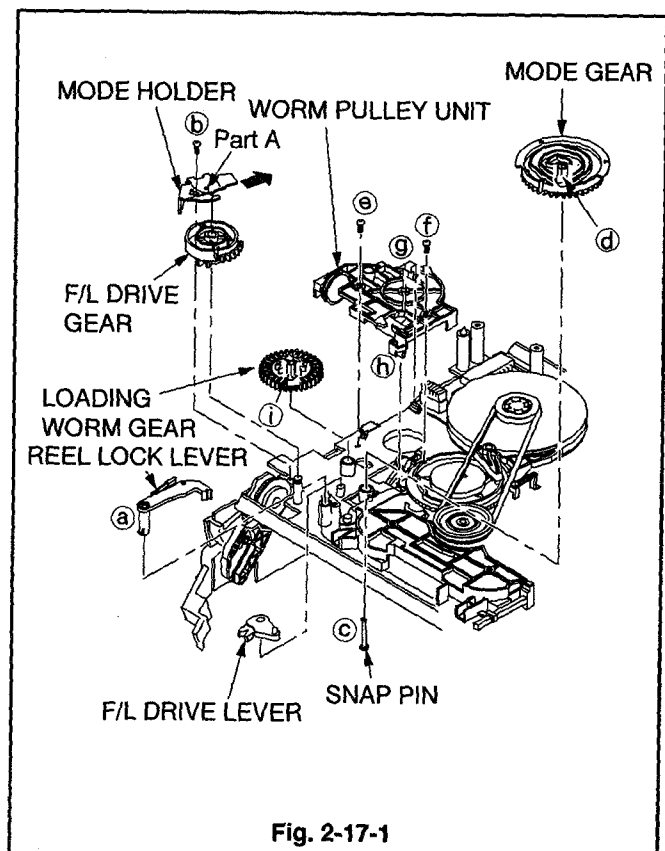

Fig. 2-17-1
- 1 Unfasten the catch (a) on the surface of the REEL LOCK LEVER shown in Fig. 2-17-1 with tweezers, etc. to remove the REEL LOCK LEVER.
- 2 Unscrew the MODE HOLDER fastening screw (b) shown in Fig. 2-17-1 to remove the MODE HOLDER.
- 3 Unfasten the catch (c) of the SNAP PIN shown in Fig. 2-17-1 with the tweezers, etc. to remove the SNAP PIN.
- 4 Unfasten the catch (d) on the surface of the MODE GEAR shown in Fig. 2-17-1 with tweezers, etc. to remove the MODE GEAR.
- 5 Remove the F/L DRIVE GEAR shown in Fig. 2-17-1 from the shaft of the MAIN PLATE ASSY.
- 6 Remove the F/L DRIVE LEVER shown in Fig. 2-17-1.
- 7 Unscrew the two WORM PULLEY UNIT fastening screws (ⓐ and ⓑ) shown in Fig. 2-17-1.
- 9 Unfasten the two catches (ⓒ and ⓓ) of the WORM PULLEY UNIT shown in Fig. 2-17-1 to remove the WORM PULLEY UNIT.
- 10 Unfasten the catch (ⓔ) on the surface of the LOADING WORM GEAR shown in Fig. 2-17-1 to remove the LOADING WORM GEAR.
- 2 Install the LOADING WORM GEAR shown in Fig. 2-17-1.
- 6 Install the F/L DRIVE LEVER shown in Fig. 2-17-1.
- 15 Push the SNAP PIN shown in Fig. 2-17-1 into the centre hole of the MODE GEAR from the surface to install it.
- 16 Move the MODE HOLDER shown in Fig. 2-17-1 in the direction shown by the arrow so that the part A of it is fixed to the shaft of the MAIN PLATE ASSY and install it.